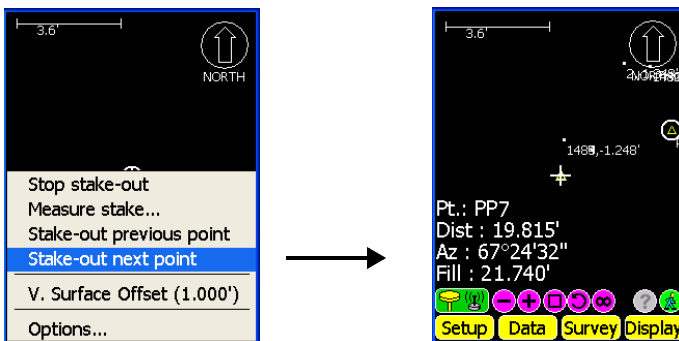

Figure 7-22. Stake-out Next Point
7. Press **Survey ▶ Stake-out ▶ Stake-out next point** (Figure 7-22) or **Survey ▶ Stake-out ▶ Stake-out previous point**. The main screen displays Distance, Azimuth, and Cut/fill information for the next control point stake-out.